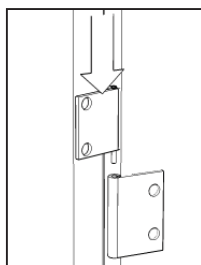

Figure 7
Attach Door (R) by sliding the door lift hinges into the side panel lift hinges. (see Figure 7)